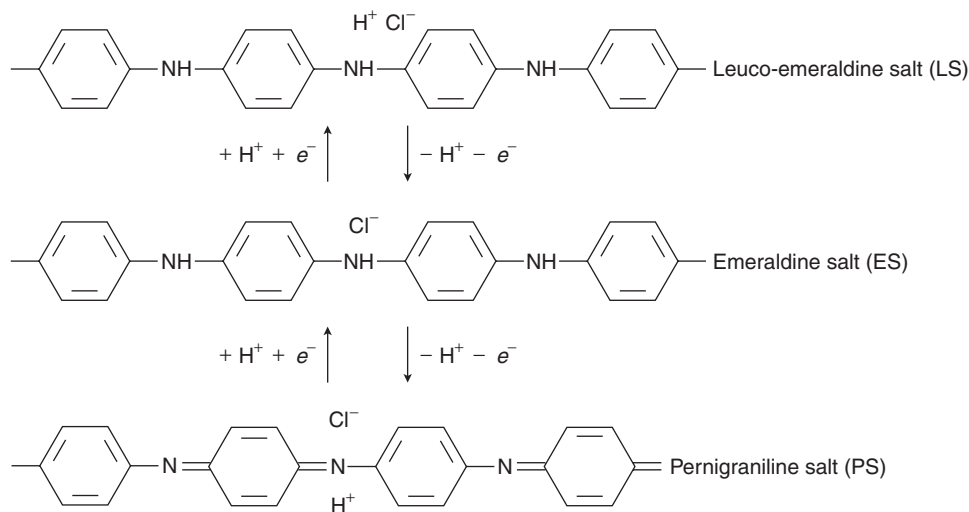

Figure 8 Formation of pernigraniline (PS) and leuco-emeraldine (LS).
The emeraldine form of polyaniline can also be electrochemically oxidized or reduced in aqueous acid resulting in pernigraniline (PS) and leuco-emeraldine (LS) salts, respectively, as shown in Figure 8. This process is known as protonic acid doping. The redox reaction occurs with the motion of protons and electrons in strong acid ( $\text{pH} < 3$ ). The addition of protons and electrons to nitrogen is observed during the reduction; this leads to ring changes from phenyl to quinoid structure upon oxidation and vice versa during reduction). The generation of these charged carriers is responsible for the conductivity of the polymer. Protonated polyaniline converts into a non-conducting blue emeraldine base when treated with a base.